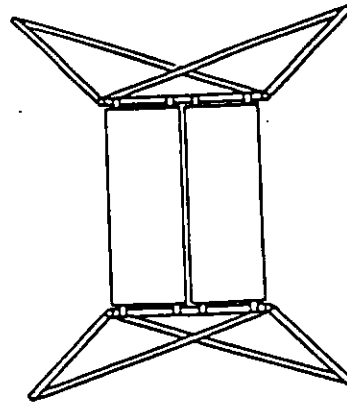

Fig.27
- d. For a free-standing tower (no obstructions) all four fully connected SOR's would look like the configuration shown in Fig. 27.